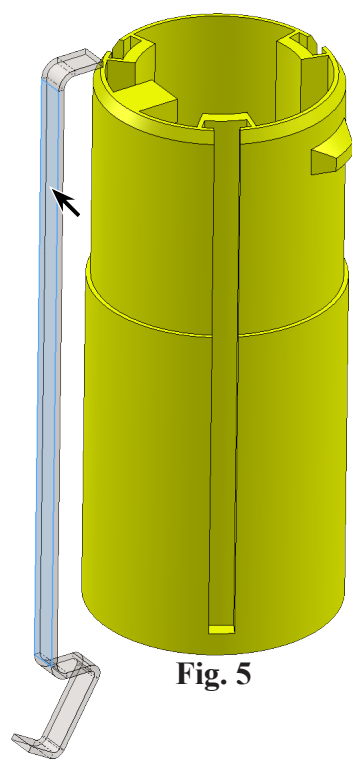

Fig. 5
Step 5. Rotate view to view **left side face of Engine Hook**, hold down middle mouse button (wheel) and drag to rotate view, **Fig. 5**.
Step 6. Click **left side face of Engine Hook**, **Fig. 5**.